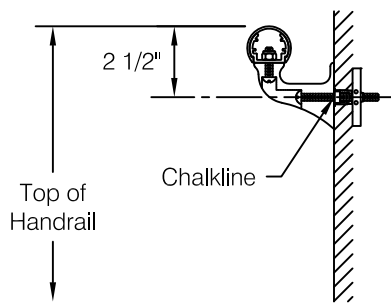

fig 1
Step 1 Determine top of handrail height and snap a chalk line 2-1/2 inches below for centerline of mounting hardware, see **fig. 1**.